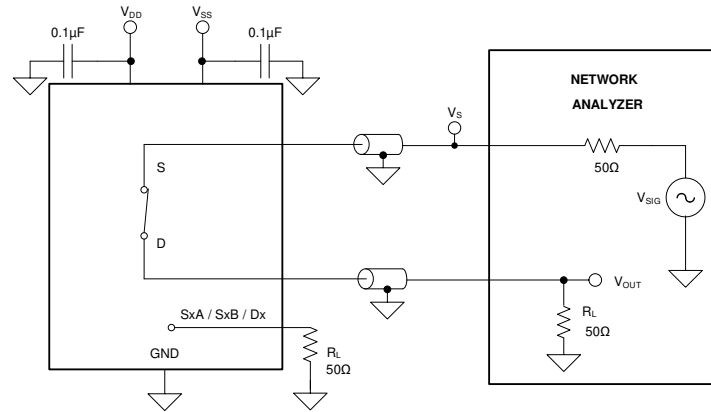

**Figure 7-9. Crosstalk Measurement Setup**
Crosstalk is defined as the ratio of the signal at the drain pin (D) of a different channel, when a signal is applied at the source pin (Sx) of an on-channel. Figure 7-9 shows the setup used to measure, and the equation used to calculate crosstalk.